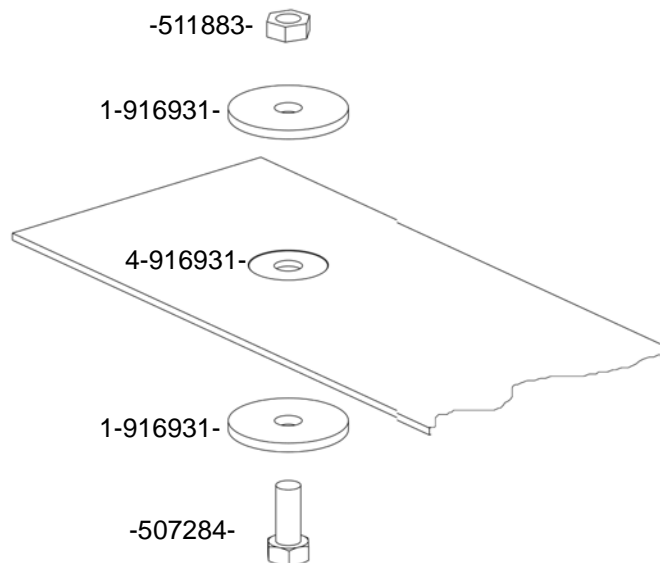

Figure 3-6 Hardware Stack-up for Vapor Barrier Seal
8. Install hardware from kit in the **two** holes in vapor barrier where the potted fittings/conduits were located for the right meter valves. Install hardware in both holes per Figure 3-6.